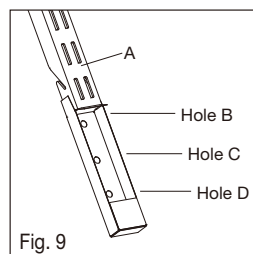

Fig. 9
- ☐ Align the drilling template box (P) as a locator as shown and mark the holes on the wall (see Fig. 9).